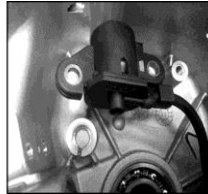

Fig. 10
- c. Position the oil level switch assembly on the crankcase over the two bolt holes (Fig. 10).